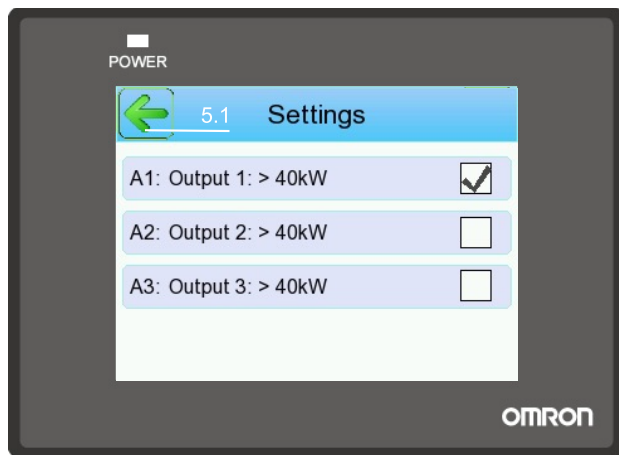

Figure 7: Display settings
- Check if the settings >40 kW are correct. See Figure 7: Display settings